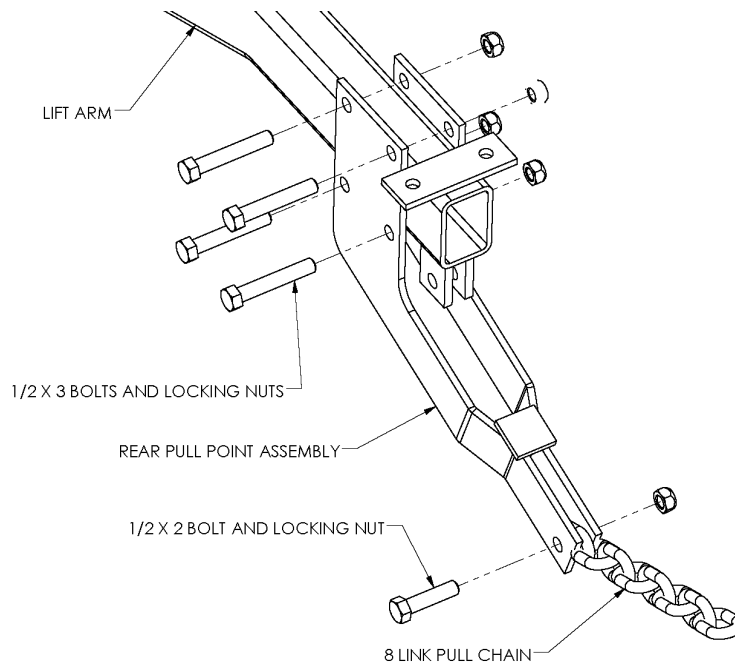

Figure 34
1. *Attach a rear pull point assembly to the rear end of each lift arm. Use four 1/2" x 3" bolt and lock nuts. Refer to Figure 34.*
2. *Bolt an 8-link pull chain to the end of the rear pull point assembly with a 1/2" x 2" bolt, lock washer, and hex nut. Refer to Figure 34.*